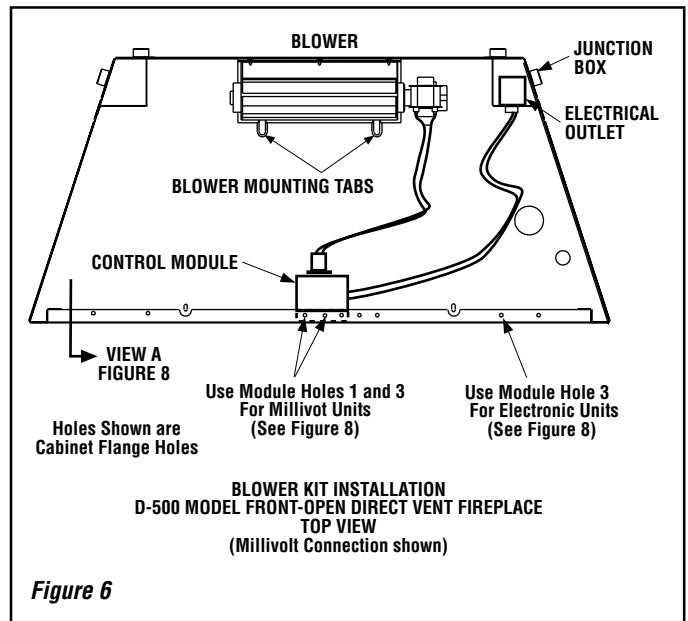

Figure 6
- e** - see **Figure 6** for D-500 series units;